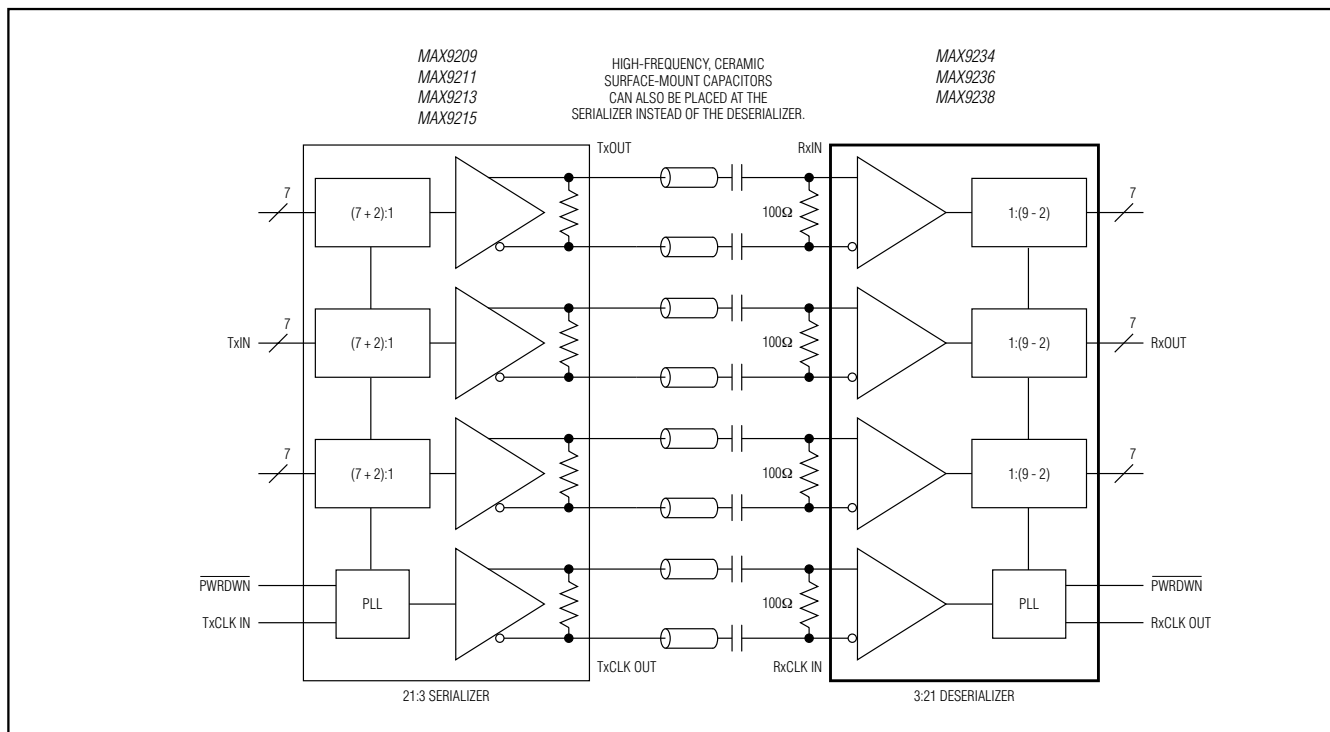
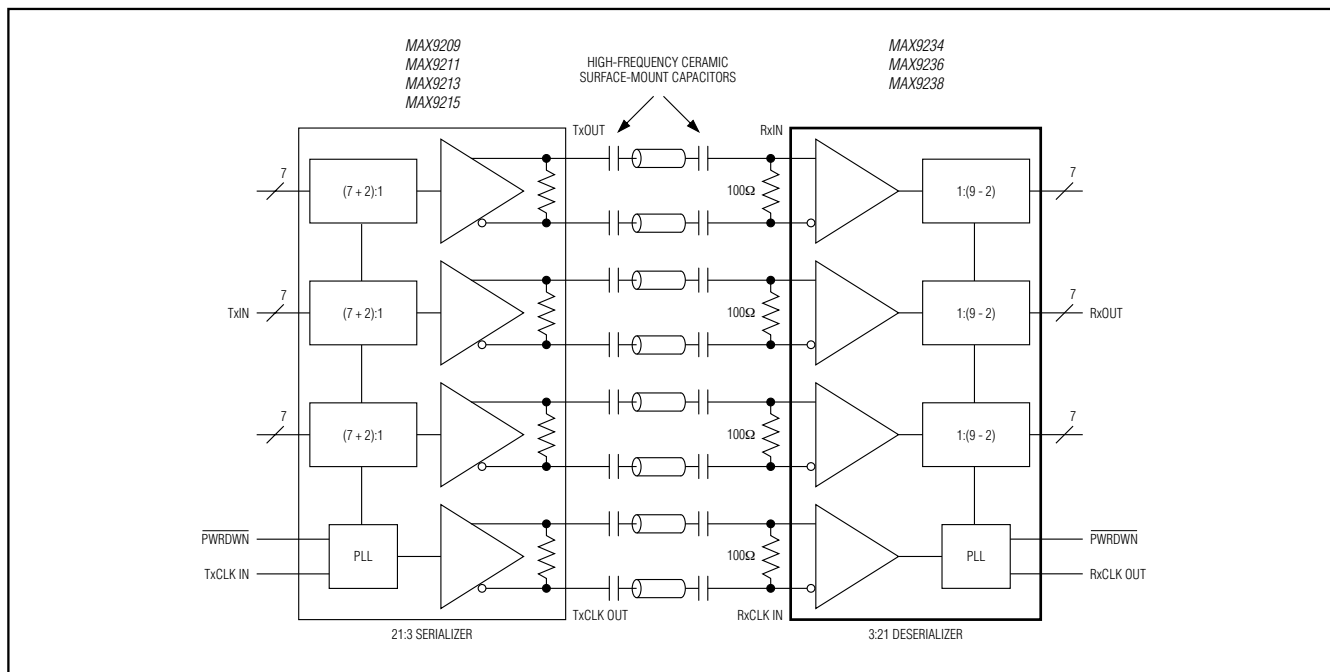

Figure 10. Two Capacitors per Link, AC-Coupled
Figure 11. Four Capacitors per Link, AC-Coupled
The RC network for an AC-coupled link consists of the LVDS receiver termination resistor (R_T), the LVDS driver output resistor (R_O), and the series AC-coupling capacitors (C). The RC time constant for two equal-value series capacitors is $(C \times (R_T + R_O)) / 2$ (Figure 10). The RC time constant for four equal-value series capacitors is $(C \times (R_T + R_O)) / 4$ (Figure 11).
Equation 1 is for two series capacitors (Figure 10). The bit time (t_B) is the period of the parallel clock divided by 9. The DSV is 10. See equation 3 for four series capacitors (Figure 11).
Equation 1 altered for four series capacitors (Figure 11) is: